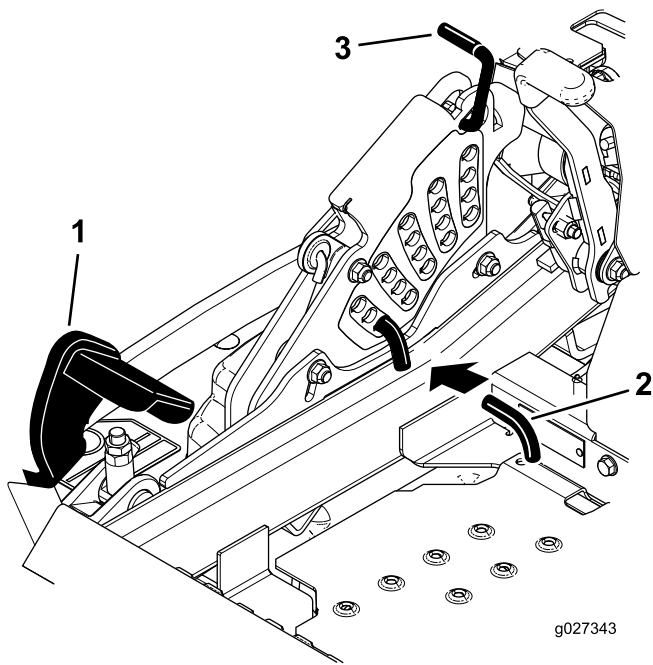

Figure 25
2. Push on the deck-lift pedal with your foot and raise the mower deck to the transport position (also the 140 mm (5-1/2 inch) cutting height position) (Figure 25).
3. To adjust, rotate the pin 90 degrees and remove the pin from the height-of-cut bracket (Figure 25).
4. Select a hole in the height-of-cut bracket corresponding to the height-of-cut desired and, insert the pin (Figure 25).